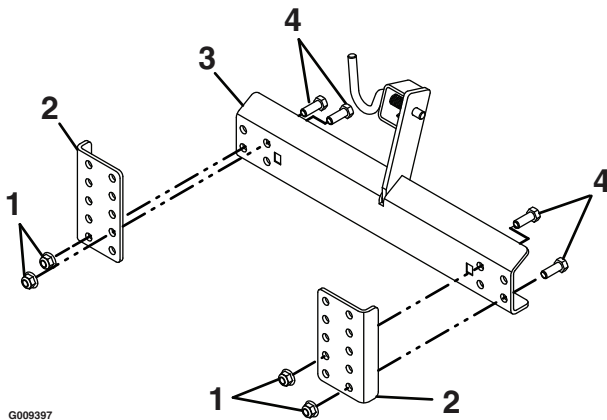

Figure 4
1. Locate the pull frame and two adapter plates. Install the pull frame to the adapter plates using four 3/8-16 x 1 1/4 inch hex capscrews and four 3/8-16 inch nyloc nuts as shown in Figure 4.